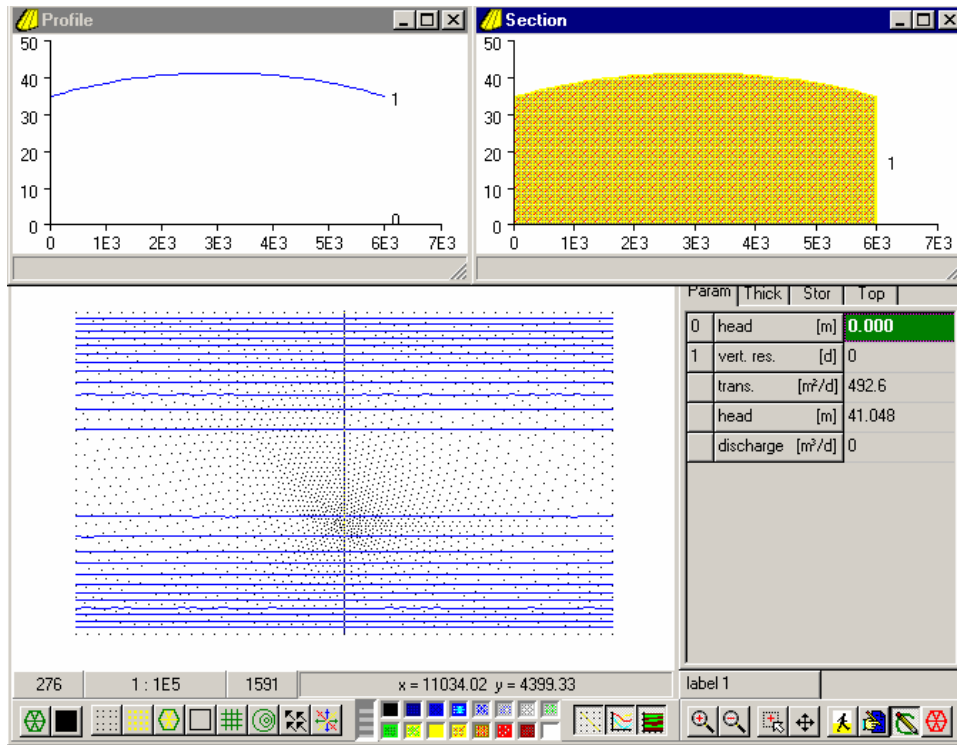

Figure 38: MicroFEM window with head profile and cross section
5. In order to save ink, in Figure 38 a white background and black axes have been selected. To do this, in the main menu select Options → Profile... and Options → Section... In the pop-up window, select white for the background and black for the axes colors. In the example picture of Figure 38, the color of h1 in the head profile was set to blue by
The head profile and cross section together with the MicroFEM window look like Figure 38: